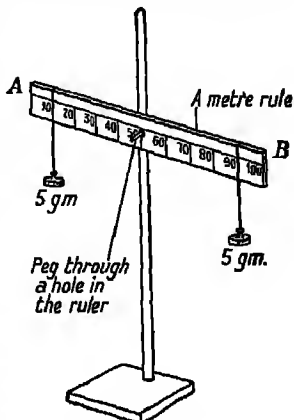

FIG. 136.
**Expt. 225.** Fit up the apparatus as in Fig. 136. *AB* is a long ruler. It is balanced on a thin peg passing through a hole in the middle of the ruler. The peg acts as a fulcrum. If the ruler does not balance exactly when the mid-point is at the fulcrum, make it do so by increasing the weight of one side by dropping a little paraffin wax or sealing wax on the end or by placing a folder clip on one side. For convenience use a ruler marked in centimetres and millimetres (but any units will do). Tie pieces of thread to various weights so that they may be suspended from any part of the ruler by a loop of the thread. Suspend two unequal weights one on each side of the fulcrum. Move them about until the ruler is balanced. Note the distance of each from the fulcrum. Using the same two weights find other positions in which the ruler balances. Repeat the experiment with other weights and tabulate your results as follows: